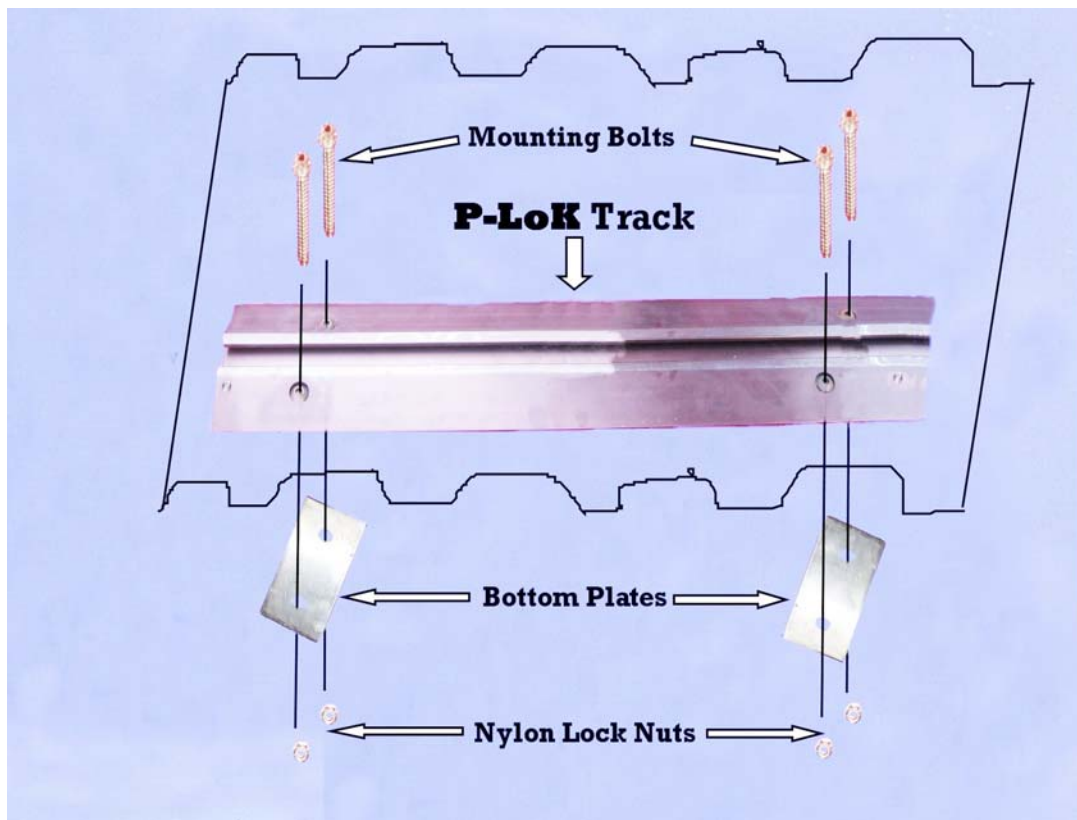

Figure 7: P-LOK™ Track Installation
Step 5: Replace the **P-LOK™** Track and secure it to the truck or trailer bed using the four 3/8" x 11 track bolts and the four 3/8"-16 track lock nuts (figure 7).